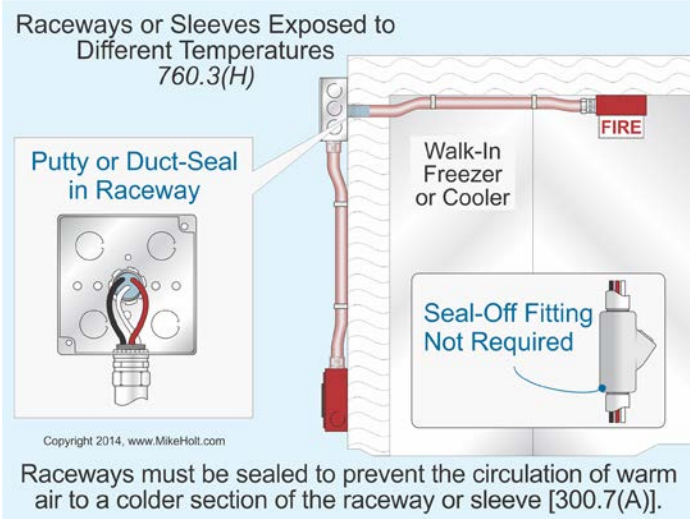

Figure 760-5
**(D) Corrosive, Damp, or Wet Locations.** Fire alarm circuits installed in corrosive, damp, or wet locations must be identified for use in the operating environment [110.11], must be of materials suitable for the environment in which they're to be installed, and must be of a type suitable for the application [300.5(B), 300.6, 300.9, and 310.10(G)].
**(E) Building Control Circuits.** Class 1, 2, and 3 circuits used for building controls (elevator capture, fan shutdown, and so on), associated with the fire alarm system, but not controlled and powered by the fire alarm system, must be installed in accordance with Article 725 [760.1].
**(F) Optical Fiber Cables.** Optical fiber cables utilized for fire alarm circuits must be installed in accordance with Article 770.
**(H) Raceways or Sleeves Exposed to Different Temperatures.** If a raceway or sleeve is subjected to different temperatures, and where condensation is known to be a problem, the raceway or sleeve must be filled with a material approved by the authority having jurisdiction that will prevent the circulation of warm air to a colder section of the raceway. An explosionproof seal isn't required for this purpose [300.7(A)]. **Figure 760-5**
**(J) Number and Size of Conductors in a Raceway.** Raceways must be large enough to permit the installation and removal of conductors without damaging conductor insulation [300.17].